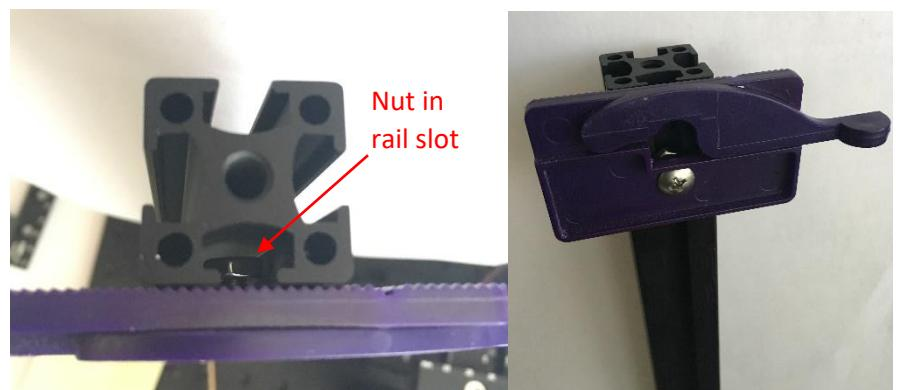

Figure 69 Water reservoir mount attached to construction rail
- See Figure 69 for the results of this step.